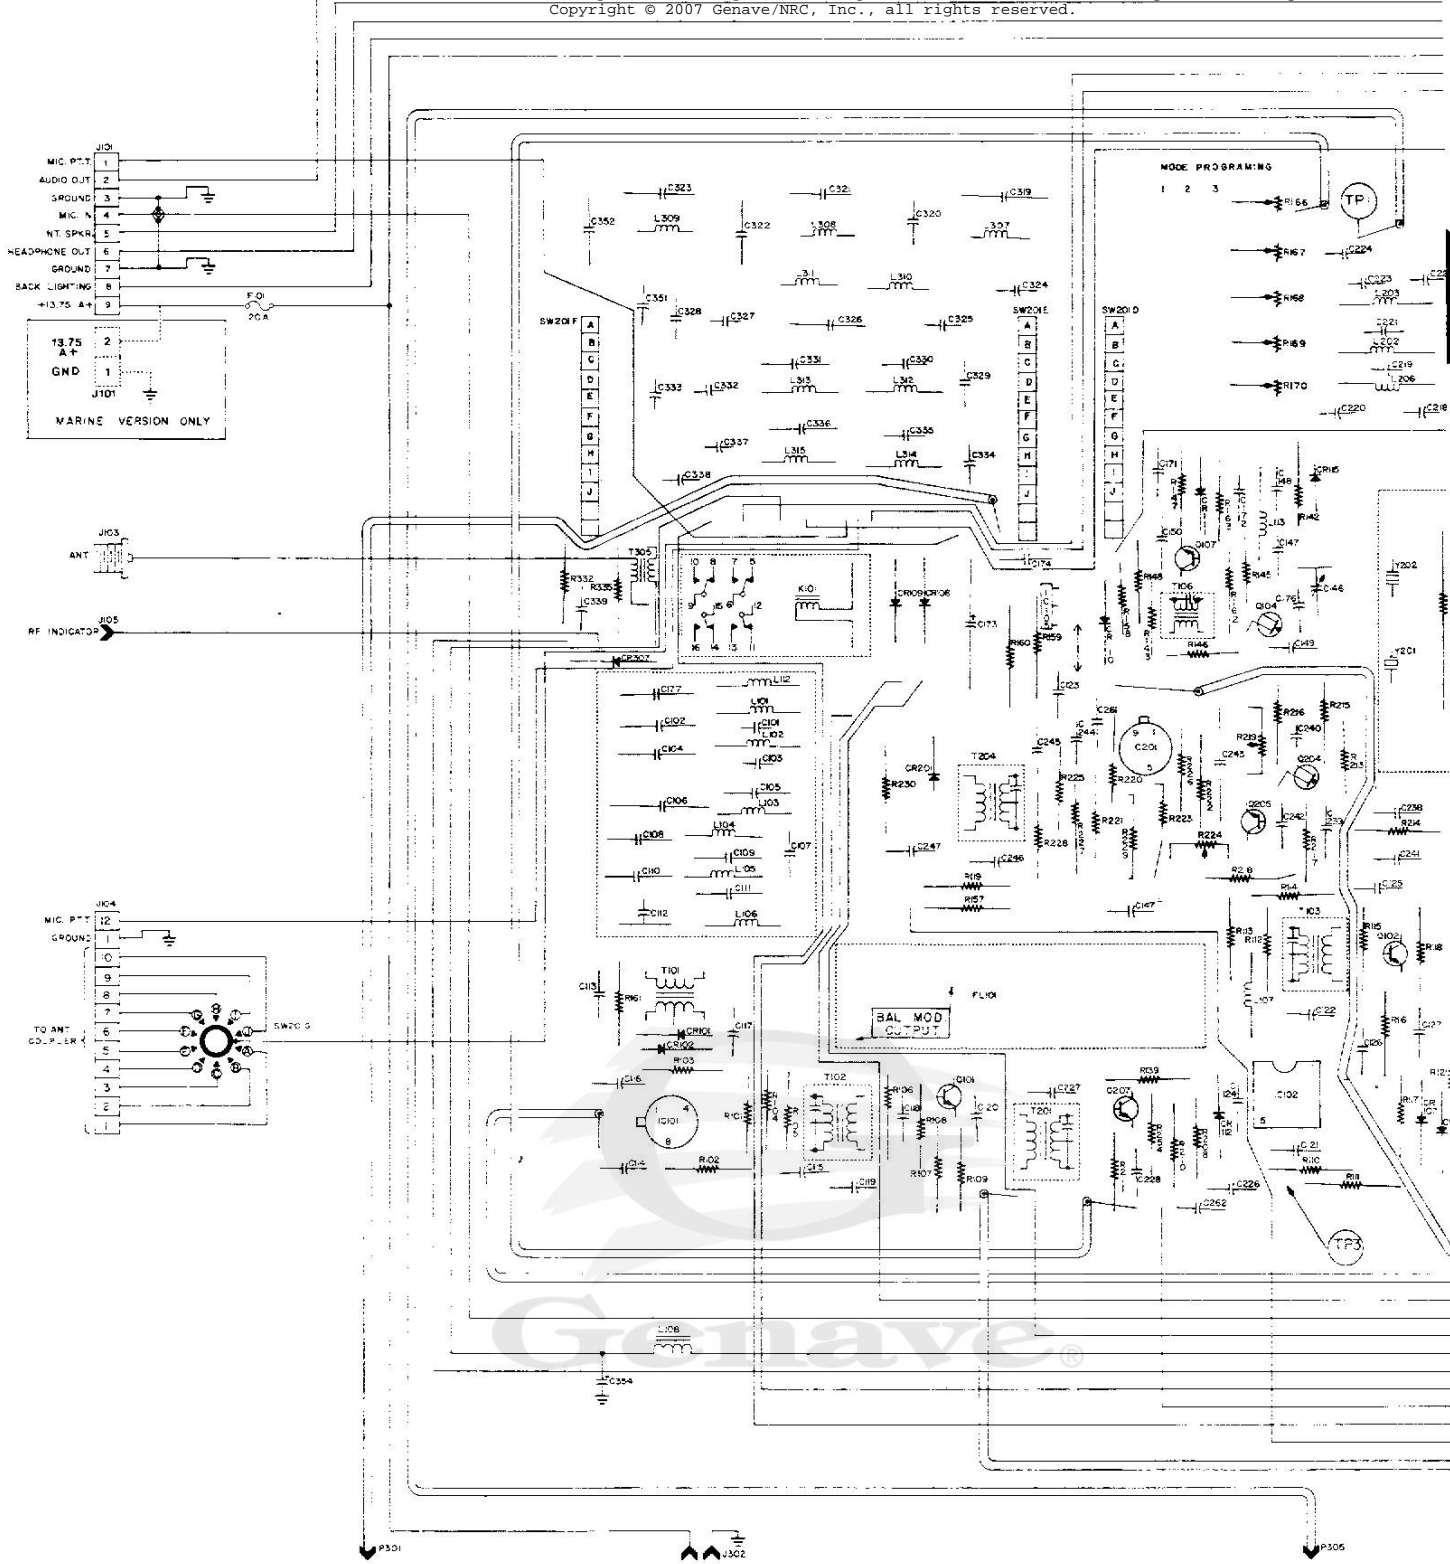

Figure 4-5. Main Board Parts/Track Map
1. Connect transceiver to a regulated 13.75-volt DC supply, and connect a frequency counter to TP5 on bottom of transceiver main PC board (see Figure 4-5).
1. With transceiver still connected to the 13.75-volt supply, connect frequency counter to output of local-oscillator filter (TP2) on bottom side of main PC board (Figure 4-5).
2. Connect unit to a 13.75-volt supply, and connect a DC VTVM to TP3 on bottom side of main PC board (see Figure 4-5). Turn unit ON.
2. Connect frequency counter to transmitter oscillator output (TP1). Refer to Figure 4-5.
2. Again remove transmitter module from unit chassis, and connect an oscilloscope to output of Bal. Modulator (See Figure 4-5).